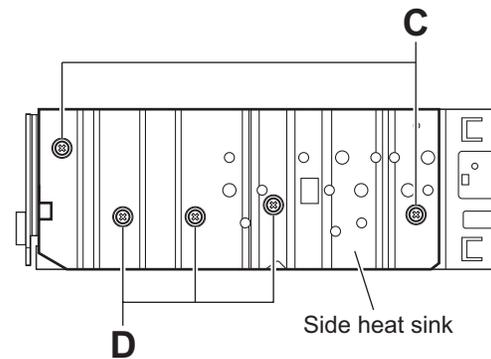

Fig.5
3.1.4 Removing the side heat sink (See Fig.5)